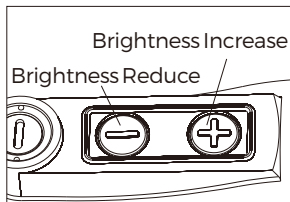

Fig 7
1. Switch on: Press and release either brightness button ("+" or "-") to turn on the sight. (see Fig 7)